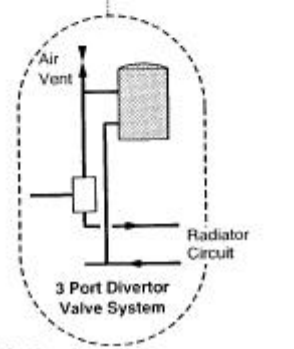

Fig. 4
- c) A system using a 3 port diverter valve (Fig. 4) does not normally require a bypass therefore this system is recommended. The exception to this is where thermostatic radiator valves are used and then a bypass is required.